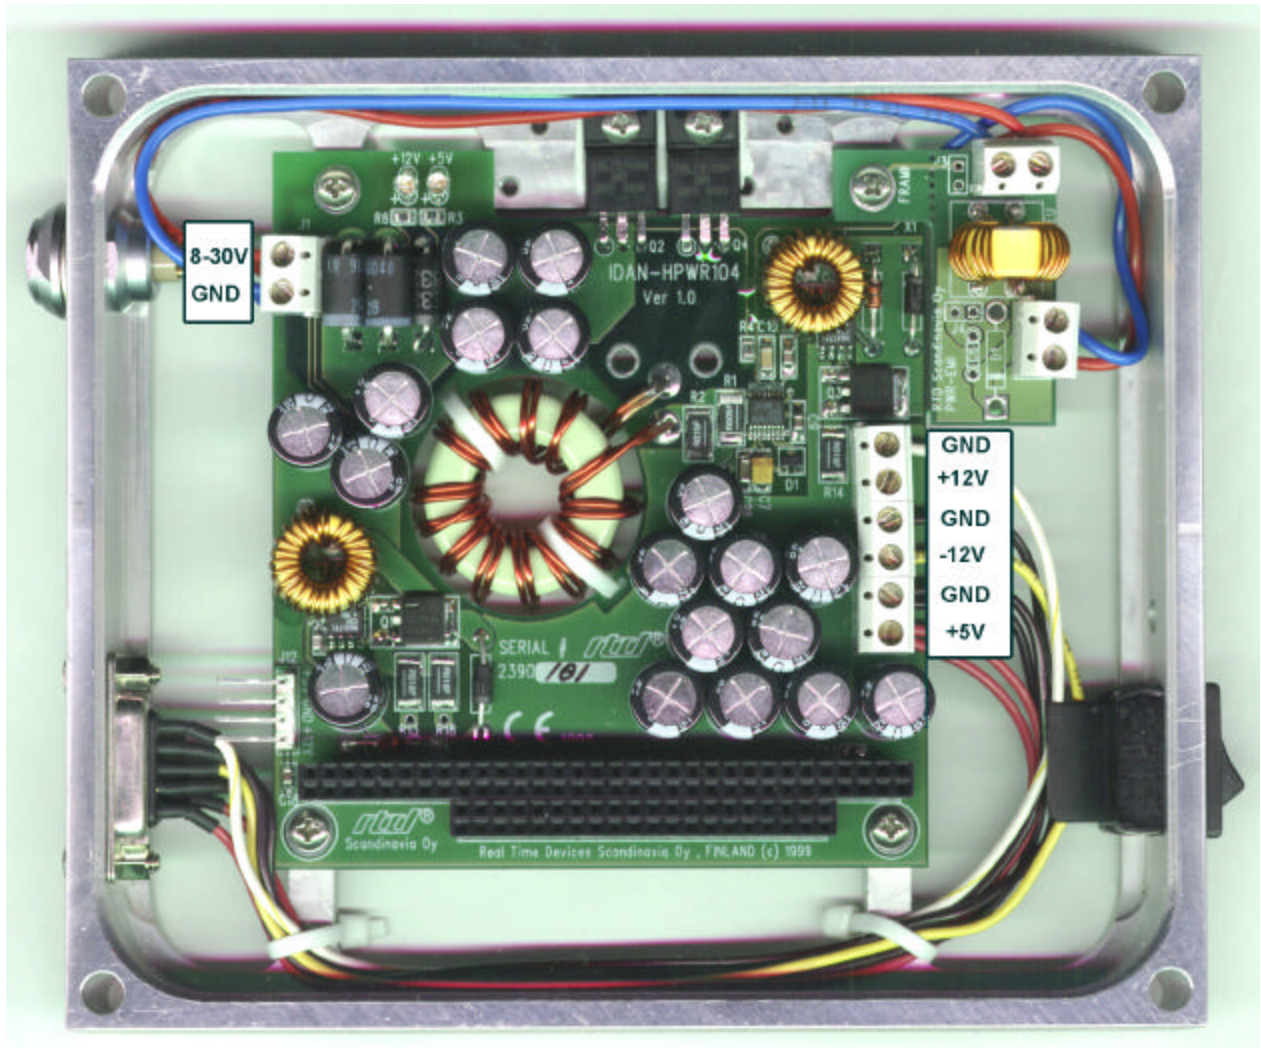

Fig. 2-2 HPWR104HR power supply power connections
- Fig. 2-2:        HPWR104HR power supply power connections**